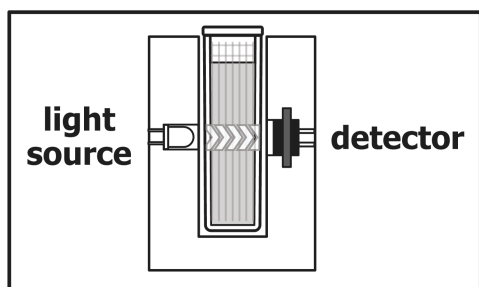

Figure 1
The primary objective of this Preliminary Activity is to determine the concentration of an unknown copper (II) sulfate solution. You will use a Colorimeter (a side view is shown in Figure 1). In this device, red light from the LED light source will pass through the solution and strike a photocell. The  $\text{CuSO}_4$  solution used in this experiment is blue. A higher concentration of the colored solution absorbs more light (and transmits less) than a solution of lower concentration. The Colorimeter monitors the light received by the photocell as percent transmittance.